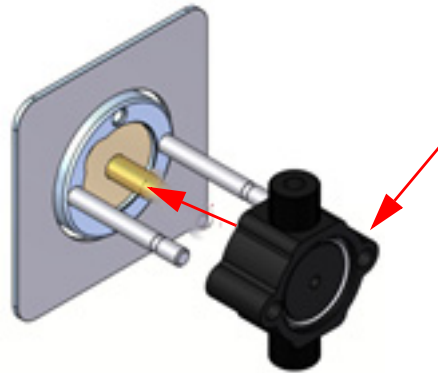

Figure 5-15 Reinstalling the pump spacer block
14. Carefully replace the pump spacer block, making sure the O-ring is properly installed (Figure 5-15).